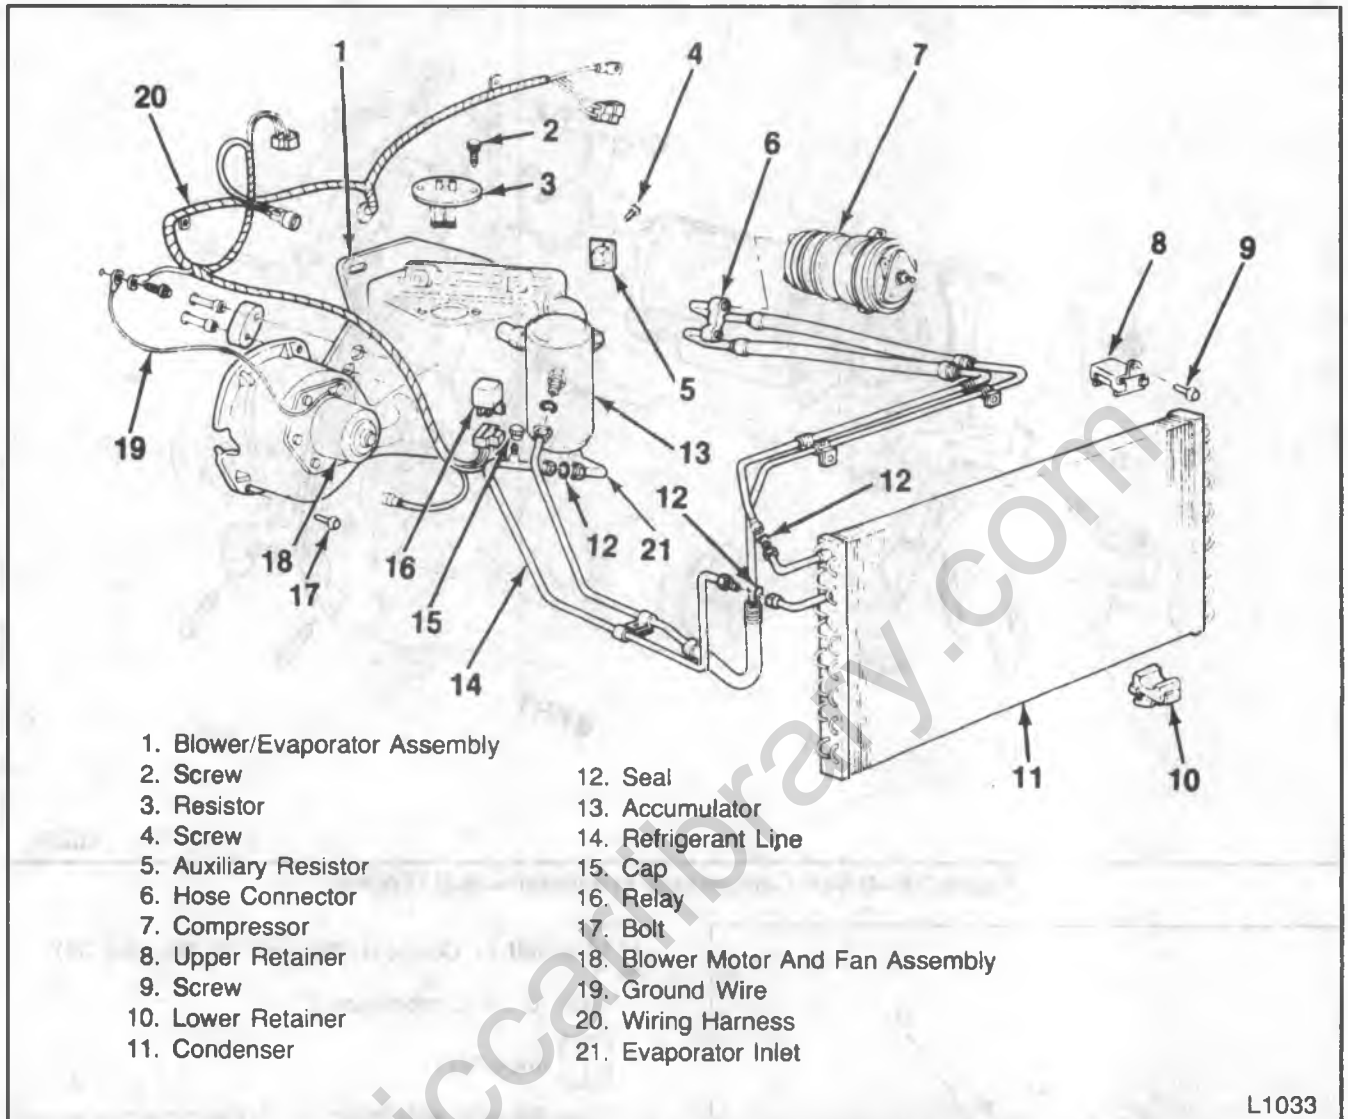

Figure 35—Air Conditioning System Component View—R/V
↔ Remove or Disconnect (Figures 35 and 36)
6. Condenser refrigerant lines (figure 35).
↔ Install or Connect (Figures 35 and 36)
↔ Remove or Disconnect (Figures 35 and 37)
↔ Install or Connect (Figures 35 and 37)
↔ Remove or Disconnect (Figures 35, 37 and 38)
Install or Connect (Figures 35, 37 and 38)